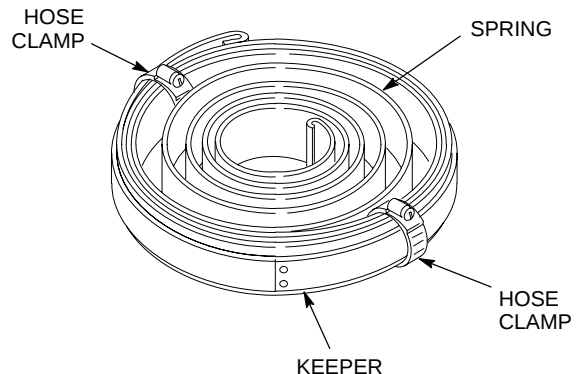

Fig. 10
9. Before disposing of the spring, carefully attach a minimum of two hose clamps around the keeper and spring bands as shown in Fig. 10.